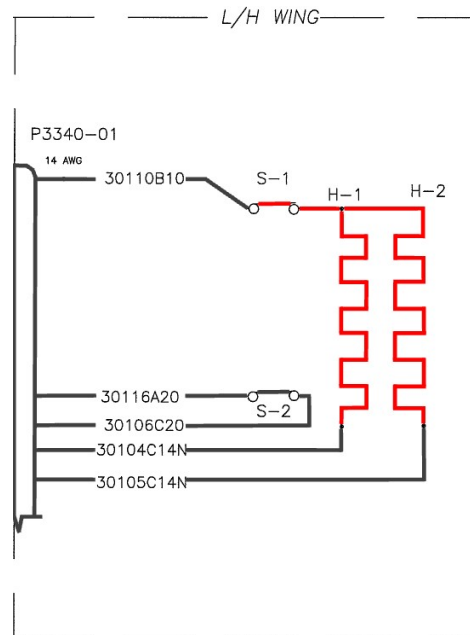

Figure 53: Wing Schematic highlighting High Thermal Limit Switch Wiring Installation
- 13.3.4** Follow the instructions below to install the wiring for the High Thermal Limit Switch (p/n: 4391S14-209), as shown in Figure 53.